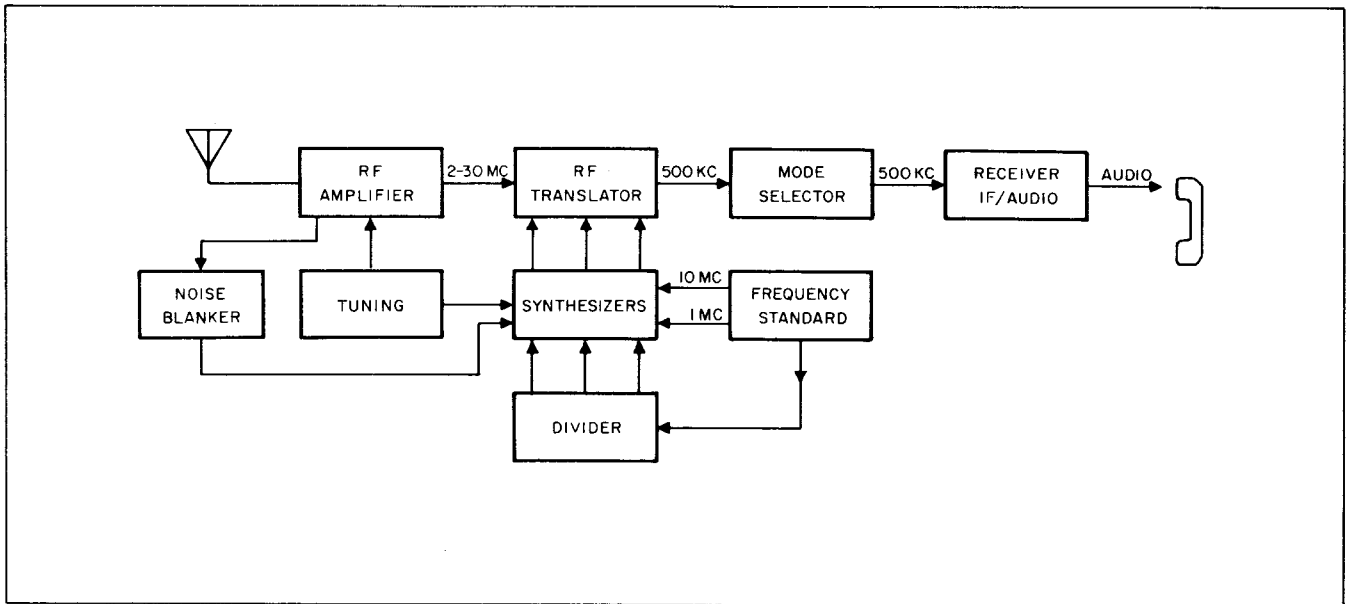

Figure 2-2. Transceiver SC-901X, Receive Functional Block Diagram
2.1.2.2 Receive. All of the major tuning units (see figure 2-2), perform a dual function while operating in Transmit or Receive. When a signal is captured by the antenna, it is fed to the RF Amplifier for selection and amplification. Then it is converted to the 500 KC IF signal in the RF Translator by mixing with the injection frequencies developed in the Translator Synthesizer units. Finally the 500 KC IF signal passes through the Mode Selector, where the proper mode of operation is selected by gating and filter networks.